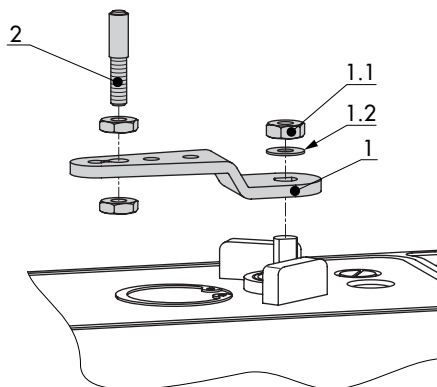

**Fig. 5-1:** Vent opening
- Do not seal or restrict the vent opening (see Fig. 5-1) when the device is installed on site.